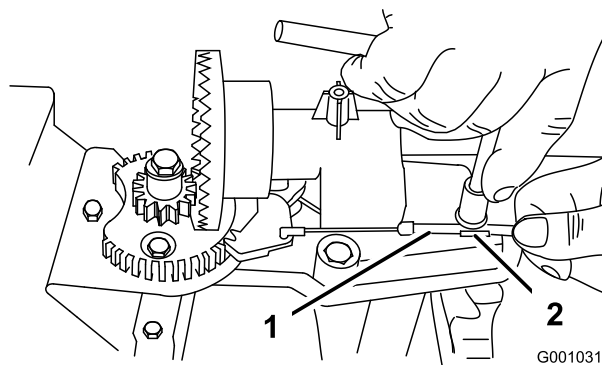
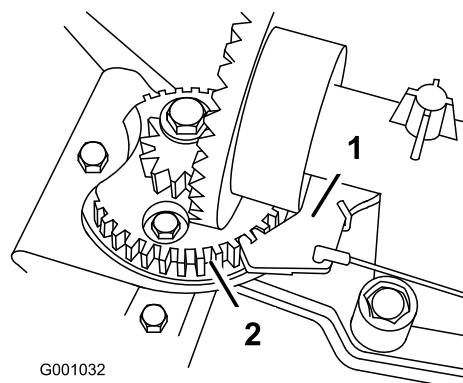

Figure 47
Figure 48
2. Loosen the bolt on the cable clamp (Figure 47).
3. Grasp the cable conduit and move it toward the front of the machine until the discharge chute latch fully engages the gear teeth (Figure 47 and Figure 48).
Note: The latch is spring loaded and will naturally move into the teeth of the gear (Figure 48).